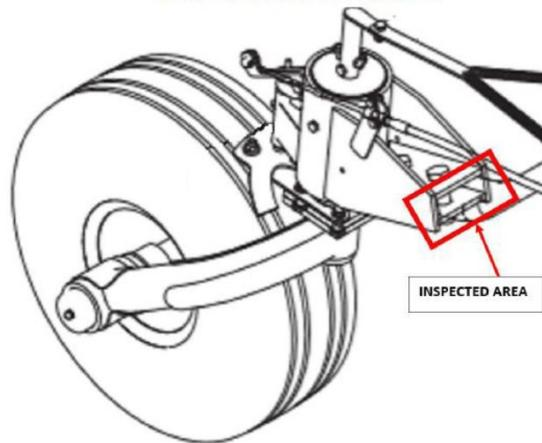

Figure 1
1. Locate forward end of tail gear adapter box and inspect for cracks and any other potential damage. (Reference Figure 1)